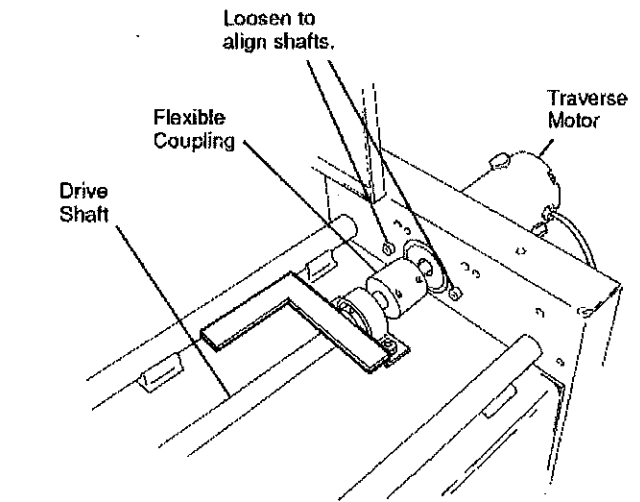

FIG. 26
6. Check that the bearing support block is at 90° to the drive shaft (within +/- 1/4 degree). Use a precision square held against the bearing shoulder and the rear rail, as in FIG. 26.